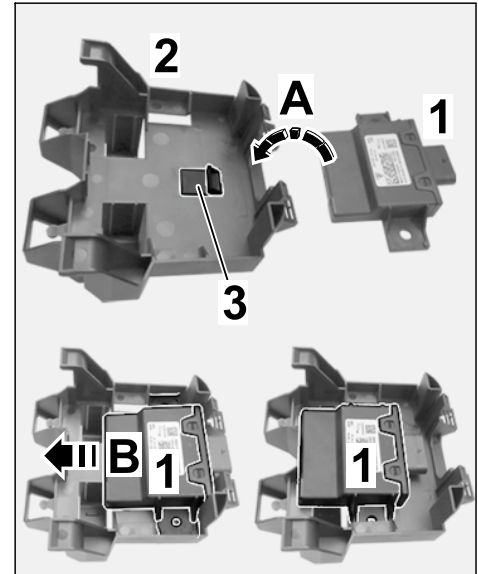

Figure 9
2.4 Insert new engine noise control unit at the underside in the control unit holder (⇒ *Figure 9-A*).